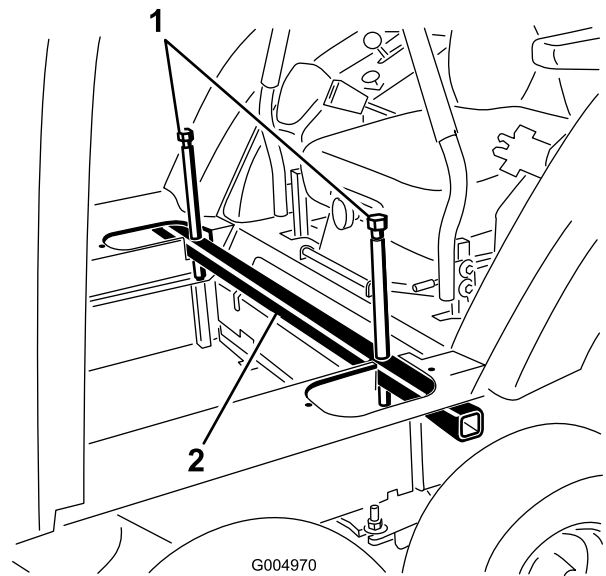

Figure 44
13. Loosen the jacking bolts and remove the cab jack tube from the cutouts in the cab floor (Figure 44).